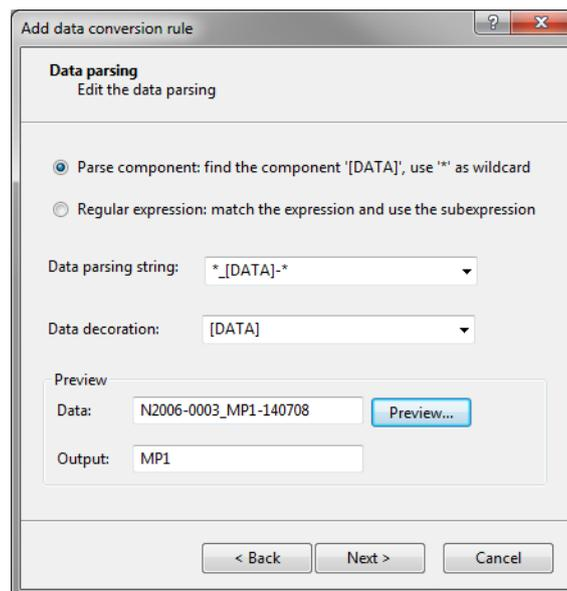

Figure 4: Parsing string.
13. Press the <Preview> button and press <Next> and <Finish> when the parsing is correct (see Figure 4).